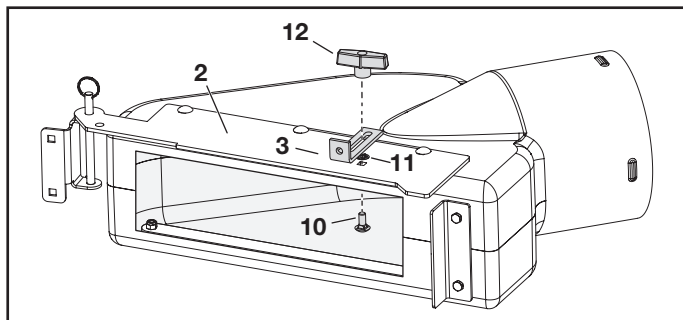
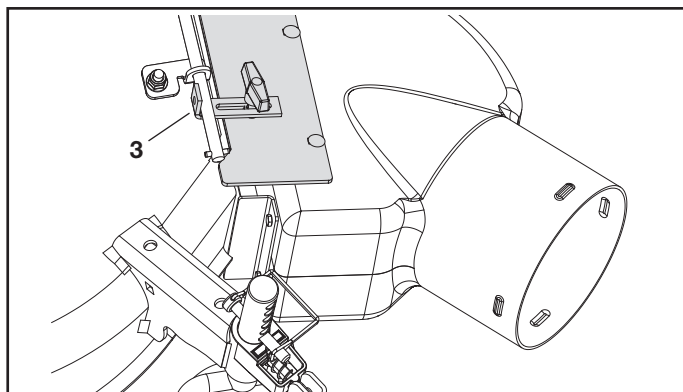

FIGURE 6
FIGURE 7
STEP 6: (SEE FIGURE 6 and FIGURE 7)
- Attach mounting bracket (3) to boot mount bracket (2) using one 5/16" carriage bolt (10), retainer nut (11), and wing knob (12).